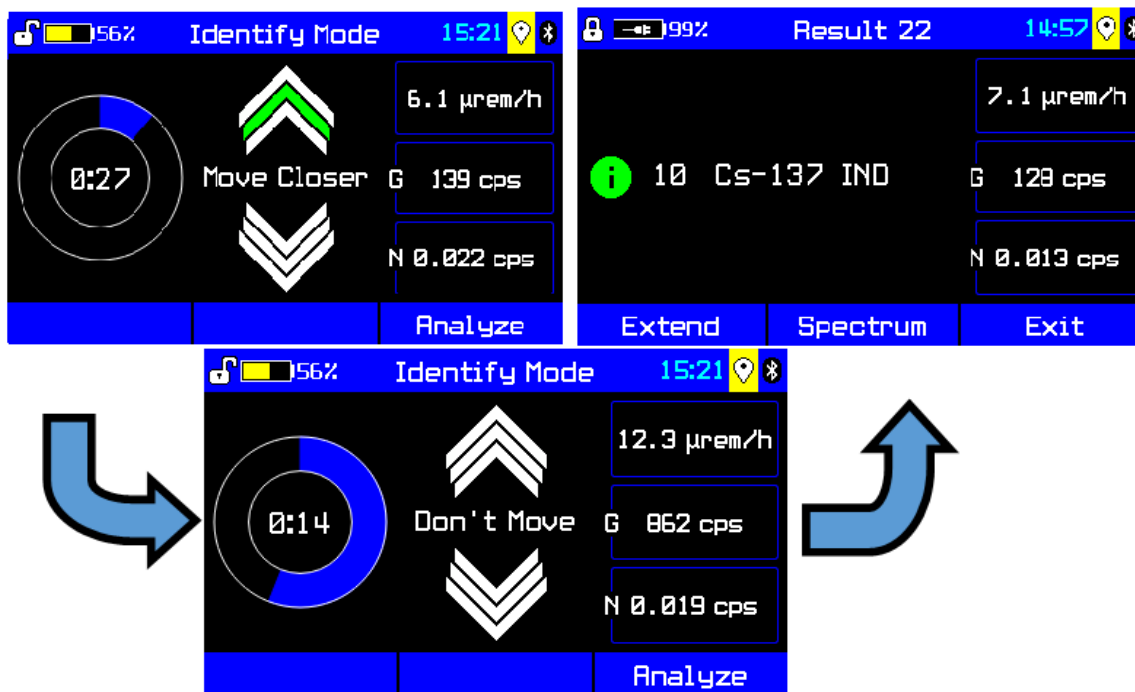

Figure 3-8: Using Identify mode
5. When activity of interest is observed, press **M** to switch to Identify mode (Figure 3-8).
You can press **R** from the first Identify mode screen (Figure 3-8) to select **Analyze** and display the Result screen at any time, but the longer the elapsed time (in static mode; see above) or the higher the percentage complete (in dynamic mode, p. 86), the more data is collected, leading to a better result.